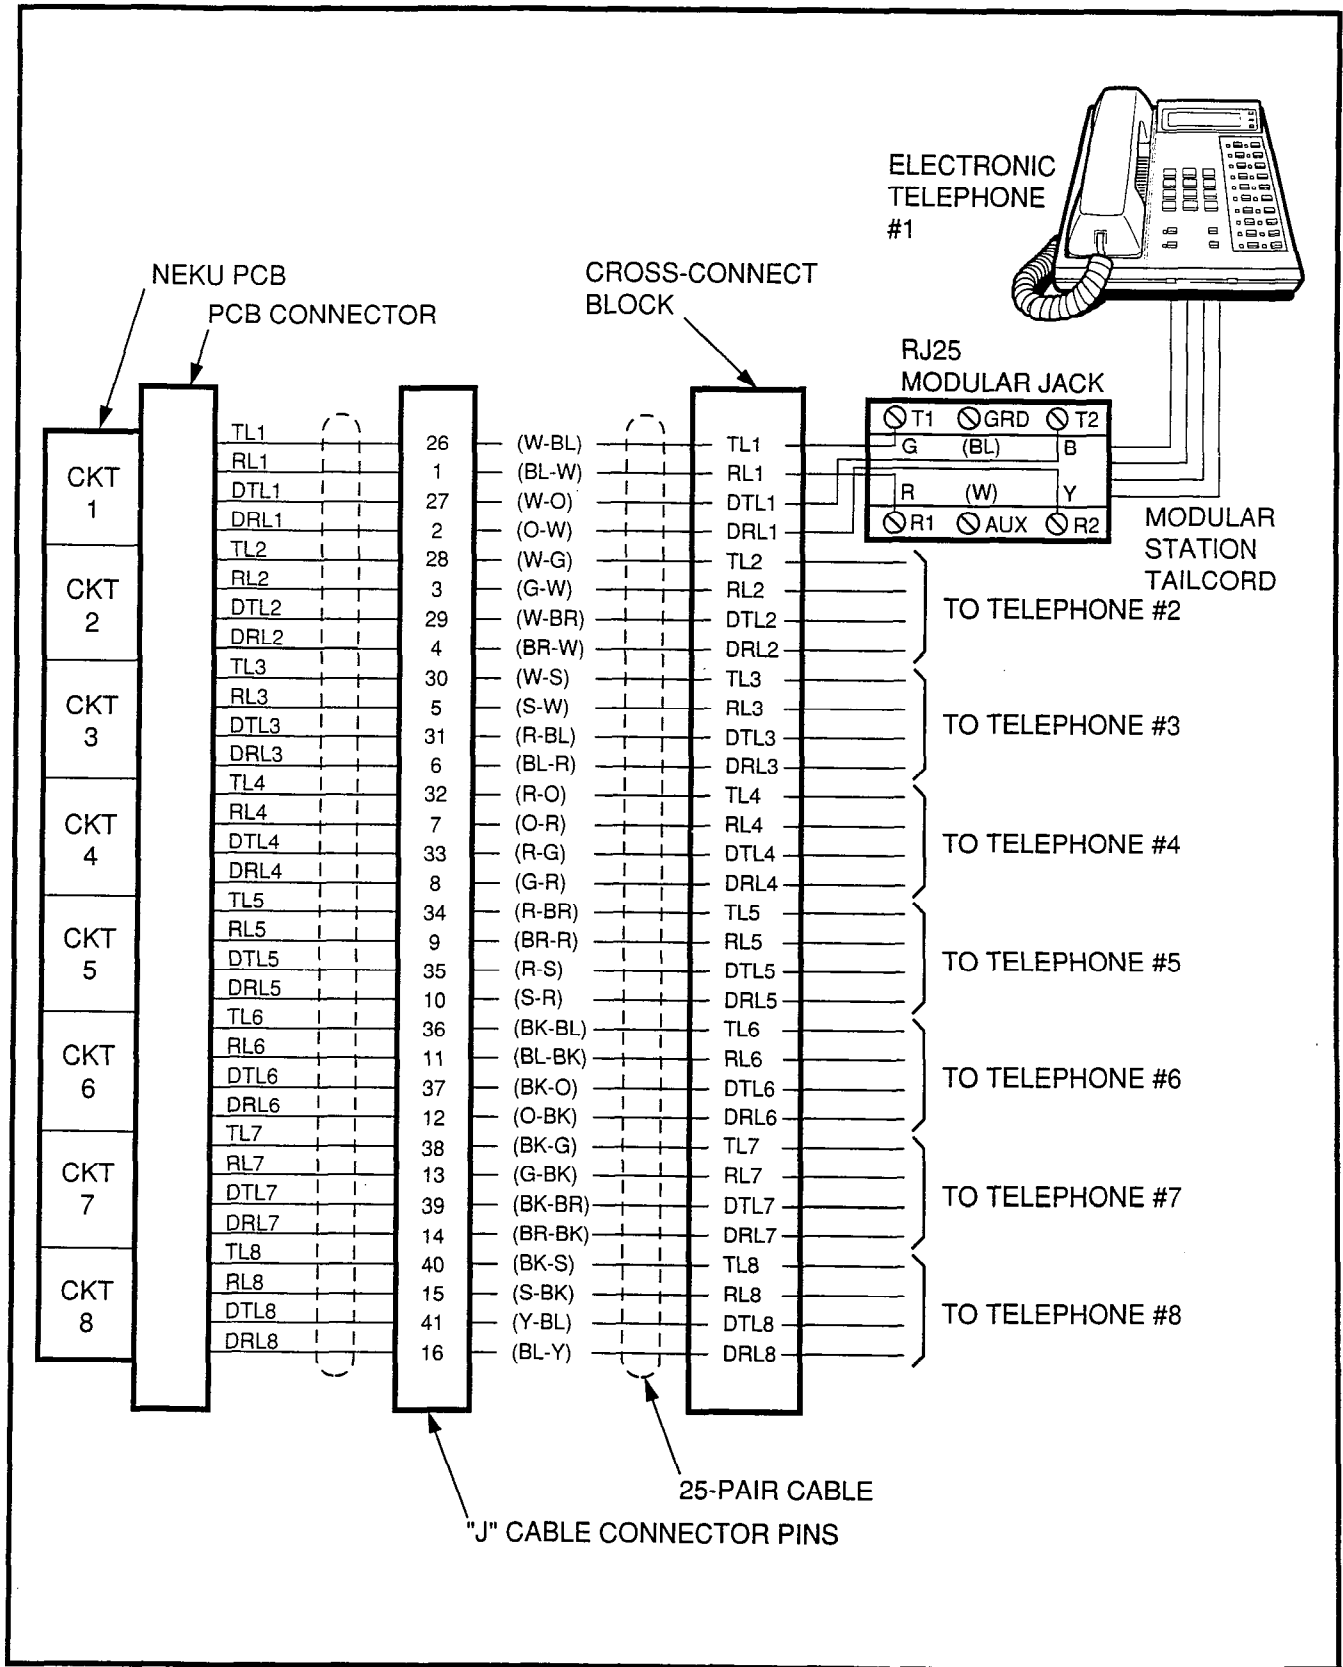

FIGURE 4-23—ELECTRONIC TELEPHONE CONNECTION
5.04 Electronic telephone connection details are shown in Figure 4-23.